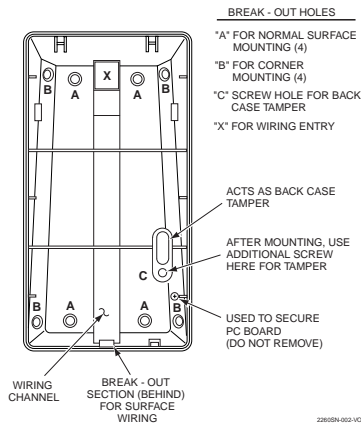

Figure 2. CASE BACK
3. Break out desired mounting and wire entry holes in the back case. Refer to Figure 2. Knockout screw holes "A" in the back case are for normal surface mounting on a wall. Knockout screw holes "B" are for corner mounting.
Also break out the wire entry hole marked X in Figure 2. If surface wiring is to be used, break out the section at the bottom of the back case, and run the wiring up the wiring channel at the back of the case to hole "X".
Removal of the cover causes a front cover tamper switch to open. Removal of the detector from the wall causes the back tamper switch to open (if back case is tampered using a screw through the tamper hole; see Figure 2). The control panel is automatically notified via the polling loop when either of these events occur.